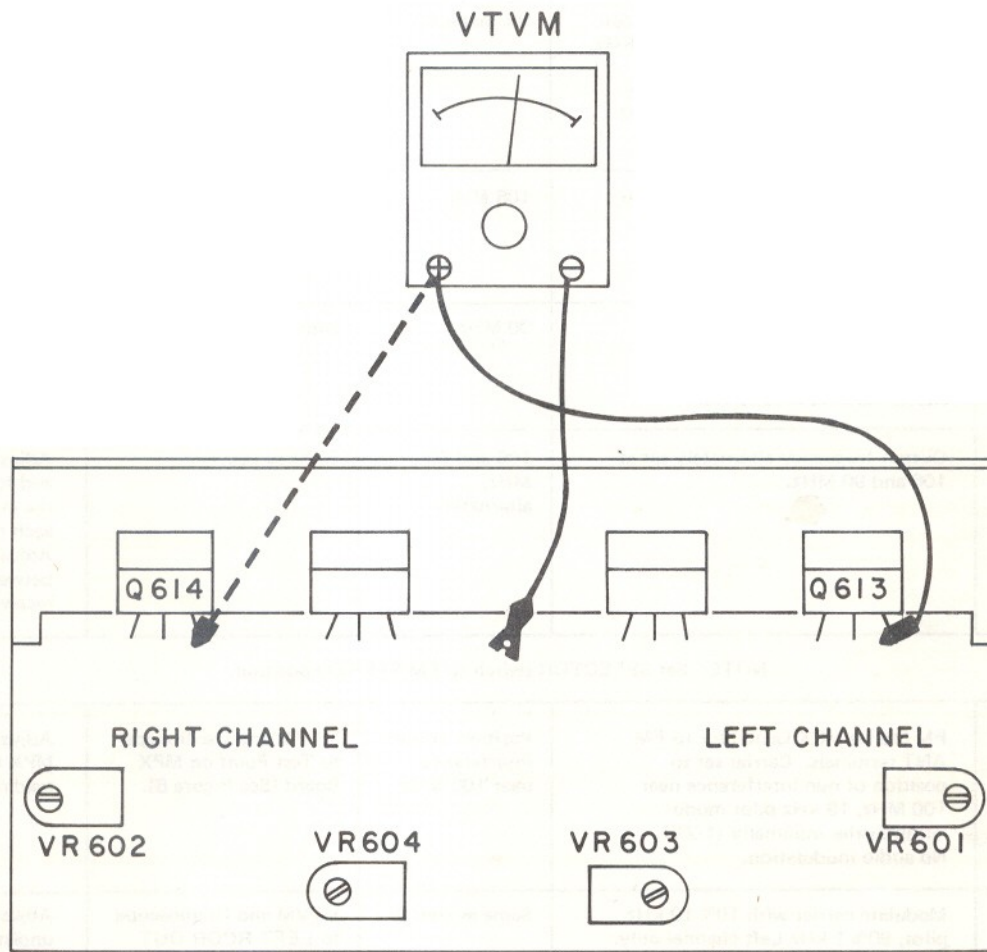

Figure 1. Power Amplifier Output Adjustment Diagram.
7. Connect a VTVM as shown in figure 1 and adjust idling control VR603 to obtain a reading of 7.5mV on the VTVM.
8. Repeat step 2 through 7 for the RIGHT channel using RIGHT MAIN speaker terminals (MAIN SPKR and COM), RIGHT AUX IN jack, DC balance control VR602, and idling control VR604. (Connection shown in figure 1 using dotted lines.)